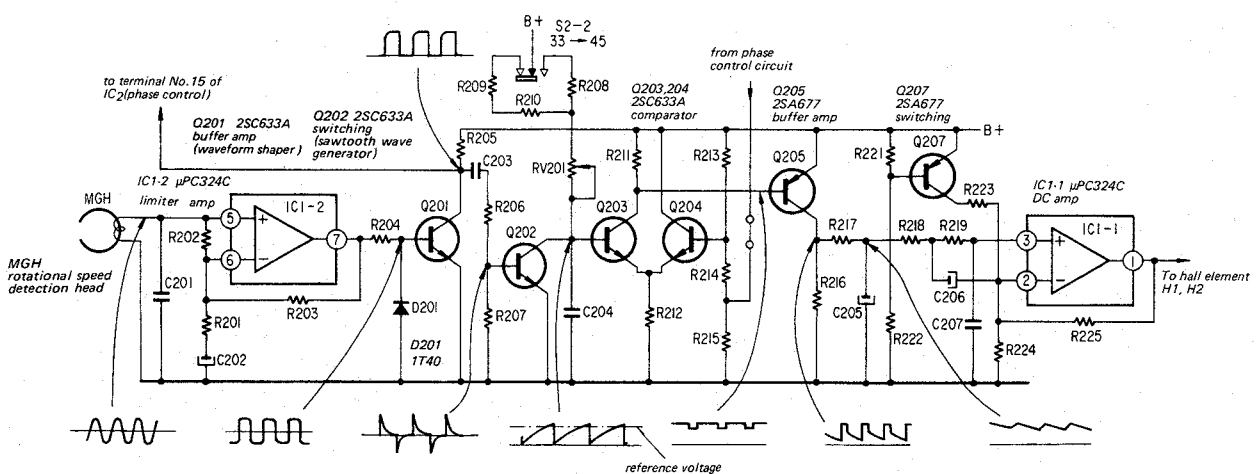

Fig. 1-1.
**1. Operation of Servo Amplifier Circuit (See Fig. 1-1)**